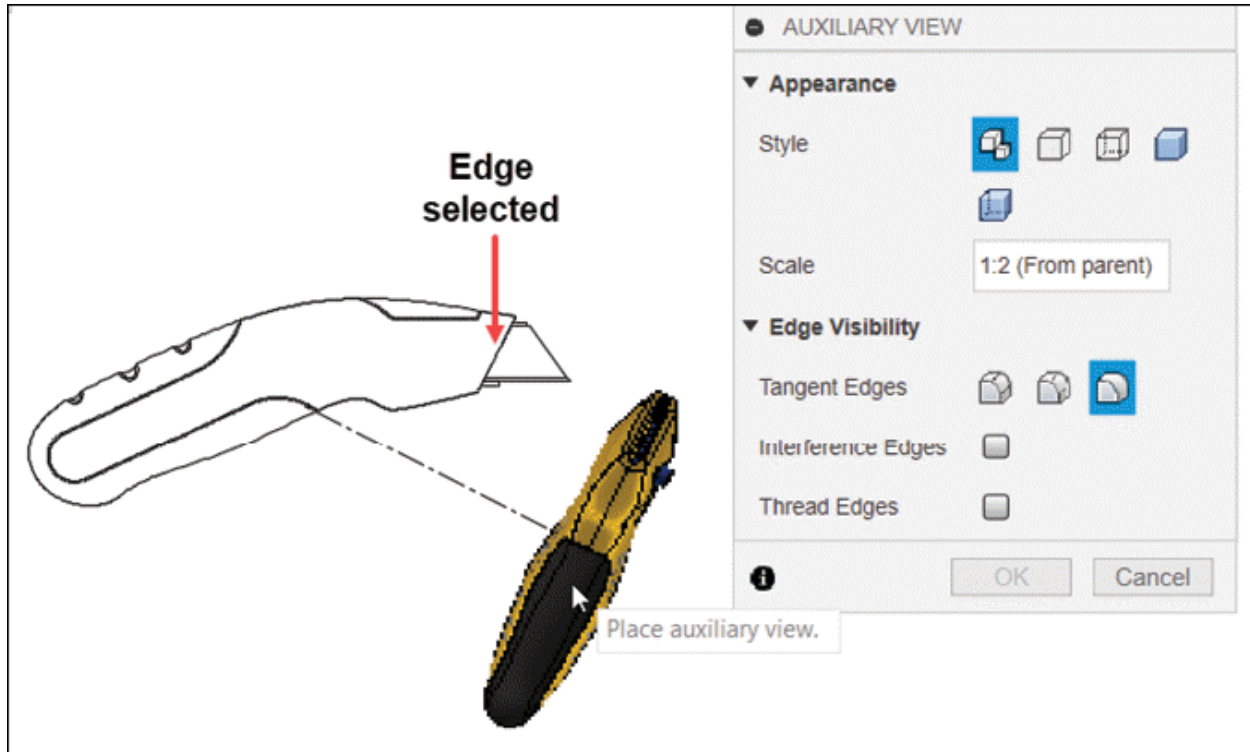

Figure-11. Auxiliary view attached to cursor
- Select desired edge from the model. The auxiliary view will get attached to cursor; refer to Figure-11.